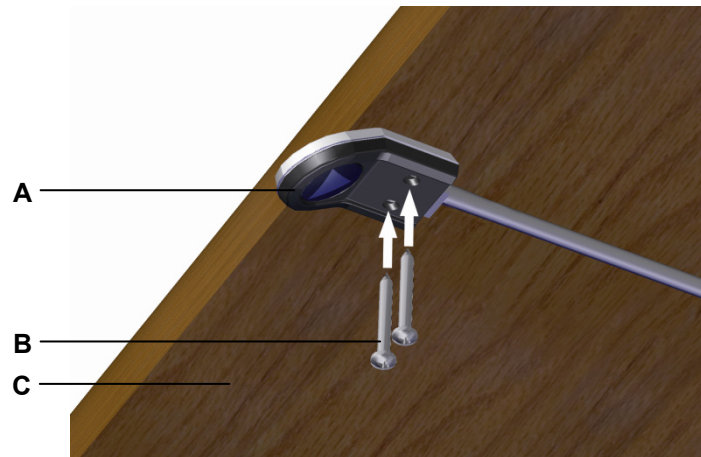

Figure 22 Example: Mounting the Motion Assist control keypad
Two screws are used to attach the Motion Assist control keypad to the underside of the table (at the table's front edge), as shown in Figure 22.
- Example: Use screws (B in Figure 22) which meet the requirements of DIN 7981 with \varnothing 3.9 mm and of suitable length (10 mm plus the screw-in depth into the table), screw head: \varnothing 7.5 mm.